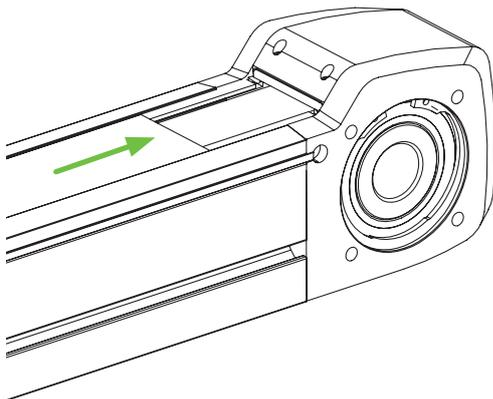

Fig. 7.10 Installing the cover strip in the cover strip clamp on the HM-B
- ▶ Push the ends of the cover strip under the cover strip clamp on both sides (see Fig. 7.10). Make sure that the cover strip is aligned centrally with the axis profile and that it is in contact with the magnetic strips across the entire length.